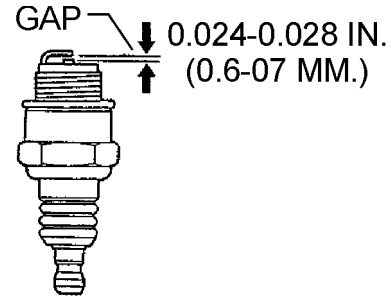

Figure 30. Spark Plug Gap
1. Remove and clean the spark plug (Figure 30), then adjust the spark gap to 0.024~0.028 inch (0.6~0.7 mm). This unit has electronic ignition, which requires no adjustments.